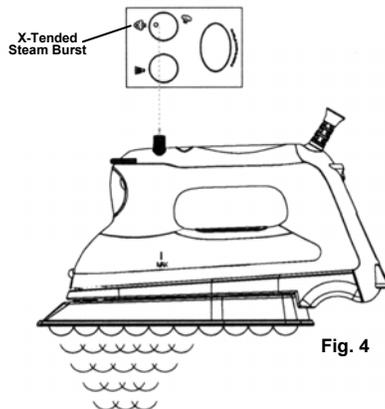

Fig. 4
- Turn the steam button clockwise to the X-Tended steam position. (Fig. 4)